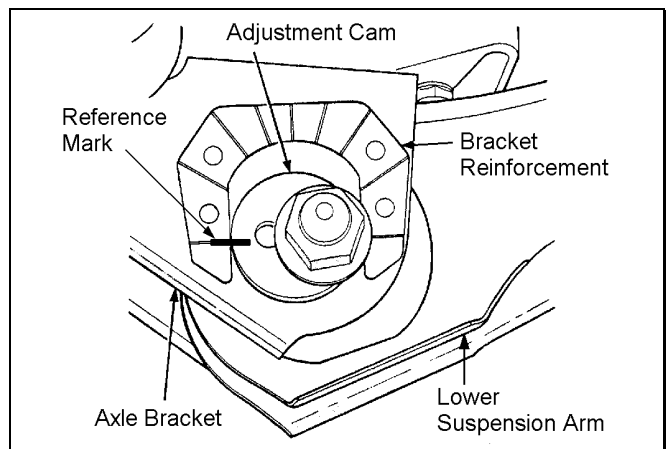

Figure 4
- 2) Paint or scribe alignment marks on the adjustment cams and axle brackets for installation reference. See Figure 4.